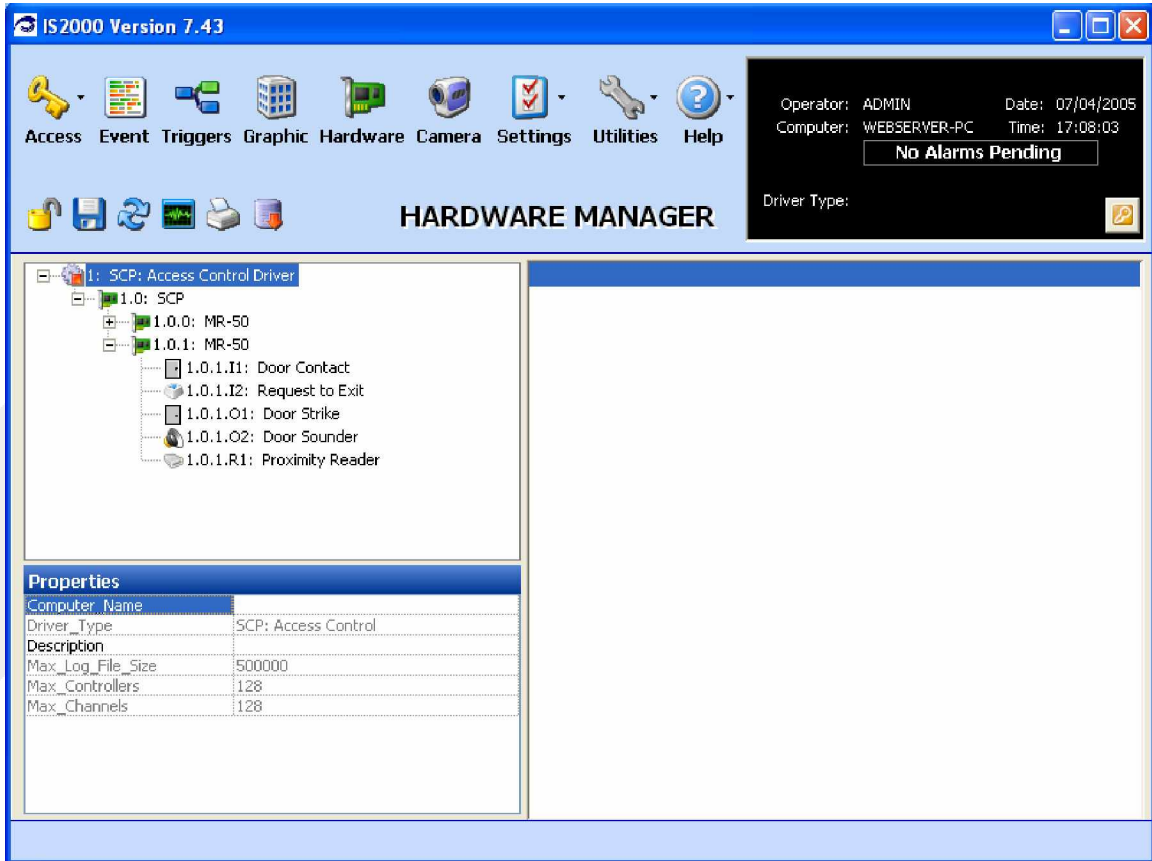

Figure 5 - Configuring the Control Driver
2. Select the Access Control Driver as shown highlighted in Figure 5. Note that the property “**Computer\_Name**” is currently empty.